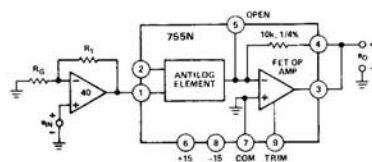

Figure 6. Method for Adjusting $K < 2/3V$
Scale Factor (K) Adjustment — The scale factor may be adjusted for all values of K greater than 2/3V by the technique described in the log section. If a value of K, less than 2/3V is desired for a given application, an external op amp would be required as shown in Figure 6. The ratio of the two resistors approximately: